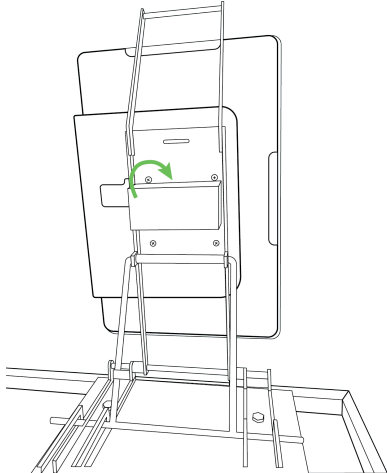

Figure 6-24. The Elo Touchscreen mounted to the kickstand
1. Align the mounting holes of the Elo Touchscreen to the mounting holes of the kickstand plate. Using a #2 screwdriver, secure the touchscreen on the plate with four M4 screws (Figure 6-24).